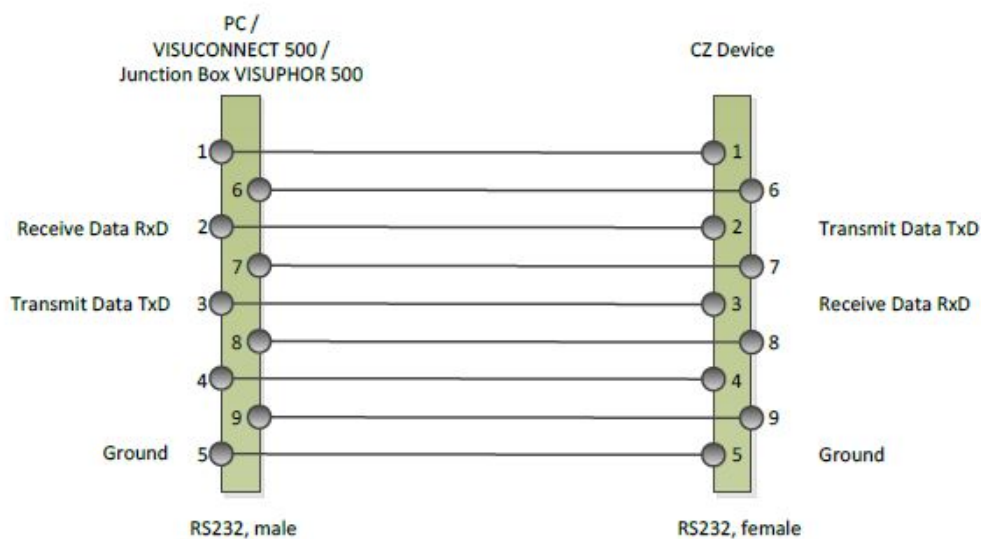

Figure 2 RS-232 DB 9 pin configuration
N.B.: Connecting to a standard PC should be possible through a standard commercial version of the shelf 1:1 cable i.e. a cable, with straight through connections, not crossing transmit and receive lines 2 (Received Data) and 3 (Transmitted Data), respectively (see Figure 2).